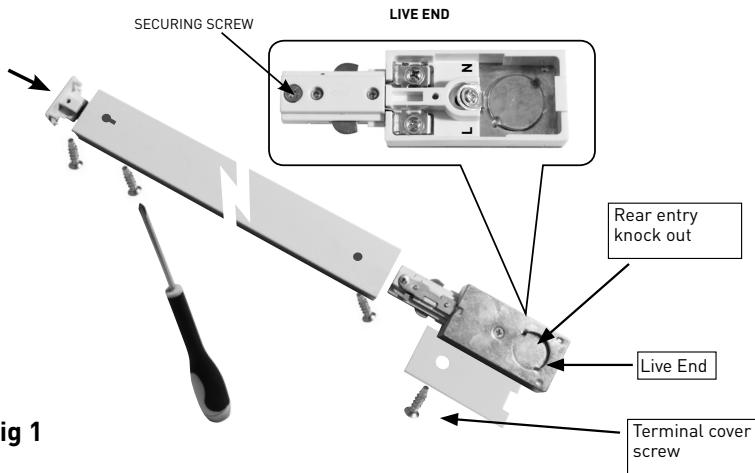

Fig 1
- Remove the securing screw to remove the Live End from the track (See Fig 1)